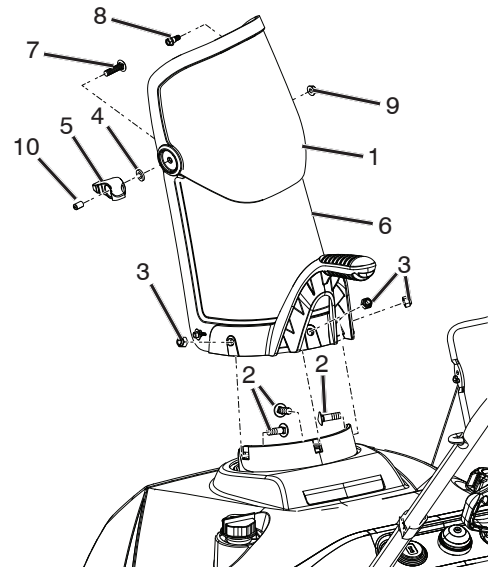

Figure 4
- Install the chute deflector to the discharge chute using bolts and, washer, nut, deflector knob and cap plunger (Figure 4).